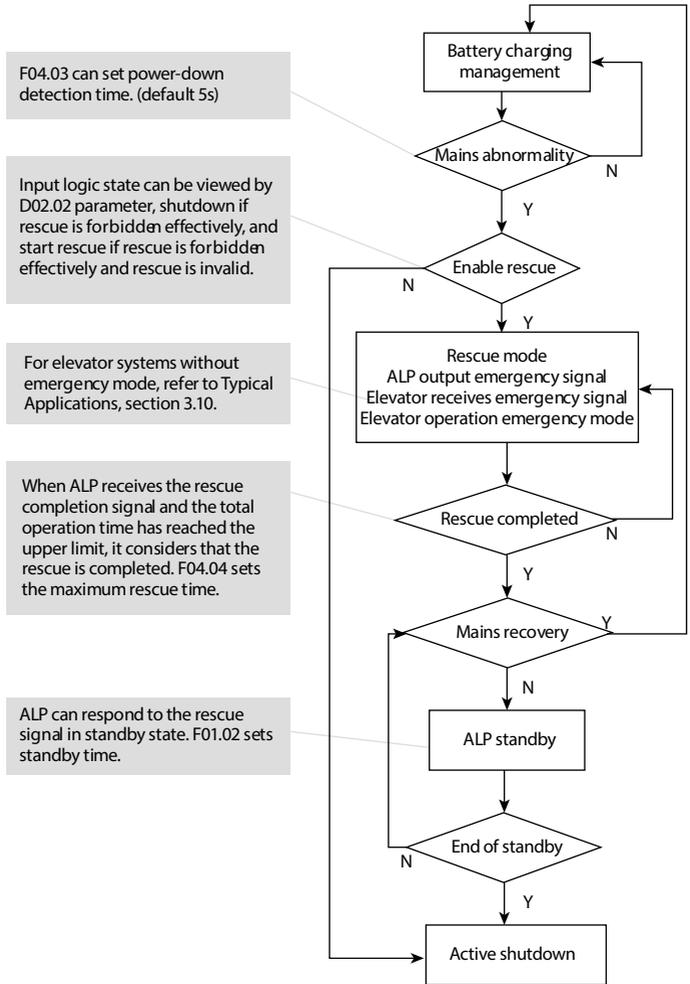

Figure 2-3 MTCC-ALP flow chart
2. In the event of an external power grid failure, the workflow is shown in Figure 2-3.